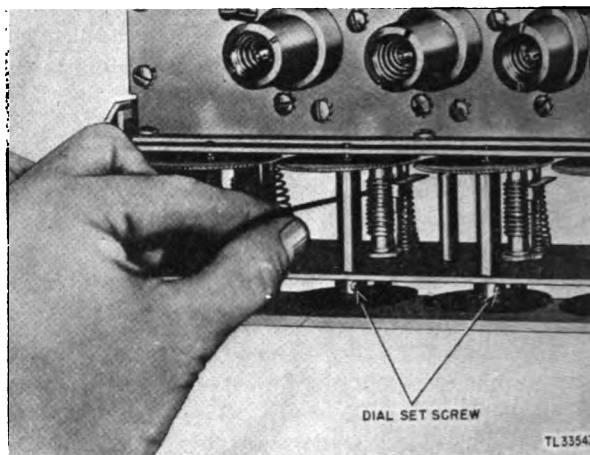

Figure 180. Radio Receiver and Transmitter BC-1267-A, r-f tuning section.
c. Turn each tuning shaft to its maximum clockwise position and check the zero position of each dial. If the dial does not read zero in this position, loosen the dial setscrew and rotate the dial until the zero coincides with the hairline (see fig. 180).